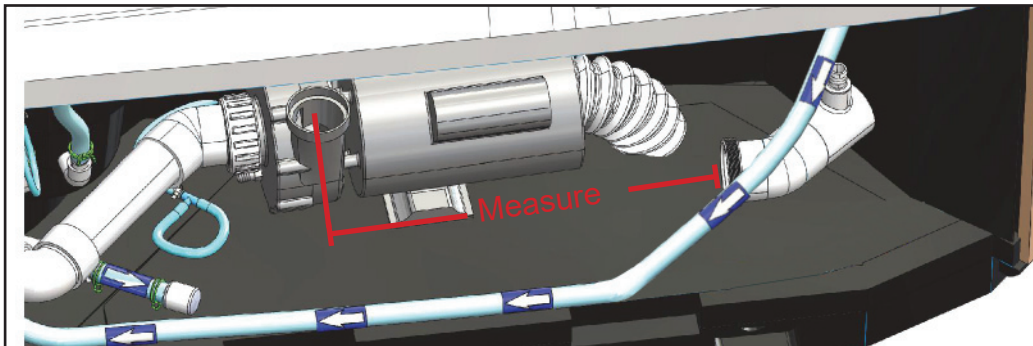
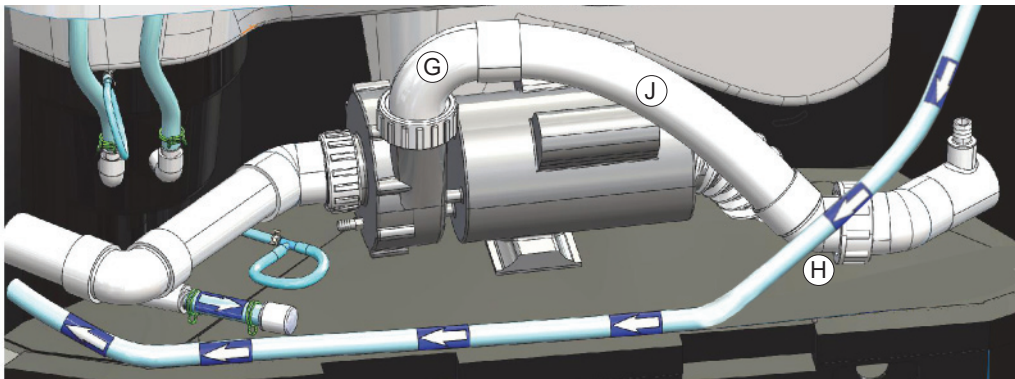

Figure 5.1
Figure 5.2
1. Measure distance from jet pump discharge to connection that was previously used as heater discharge line (Figure 5.1).
2. Locate 2" 90° Compression fitting (G) that comes with kit.
3. Attach 2" 90° Compression fitting (G) to jet pump discharge (Figure 5.2).
4. Locate 2" Flex Tubing (J) provided with kit and place into on Compression fitting (G) (Figure 5.2) (DO NOT GLUE).
5. Locate 2" 45° Compression fitting (H) that comes with kit.
6. Attach 2" 45° Compression fitting (H) to connection that was originally used as heater discharge line (Figure 5.2).
7. Connect 2" Flex Tubing(J) to 2" 45° Compression fitting (H) (Figure 5.2). (DO NOT GLUE).
8. Make sure that the 2" Flex Tubing (J) bends upward and that all pieces fit similar as in (Figure 5.2).
9. Apply PVC Primer and Glue to attach all components as seen in (Figure 5.2).